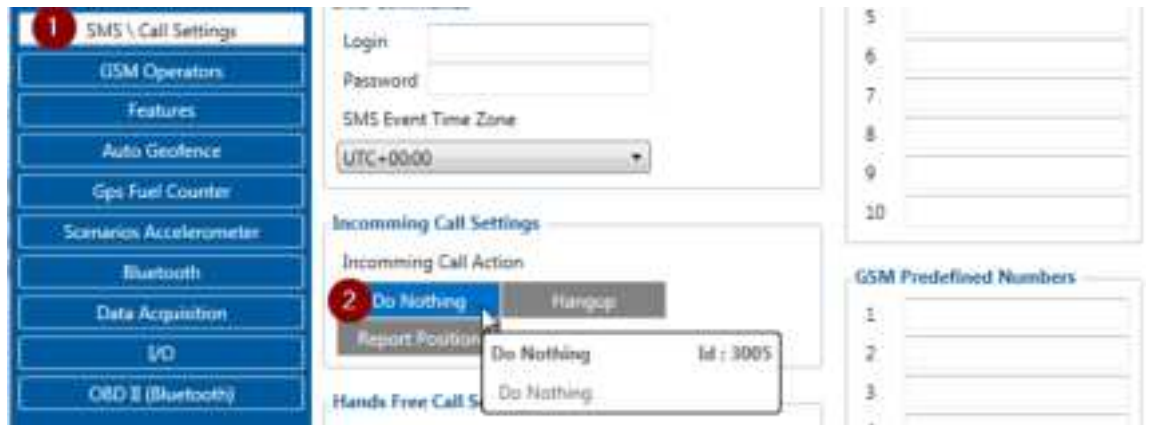

Figure 3. Incoming Call Action settings.
9. Go to „**SMS \ Call Settings**“ in left menu and set „**Incomming Call Action**“ to „**Do Nothing**“ visible at **Figure 3**.
9. Go to „**OBD II (Bluetooth)**“ in left menu and select priority and others parameters visible at **Figure 3**.